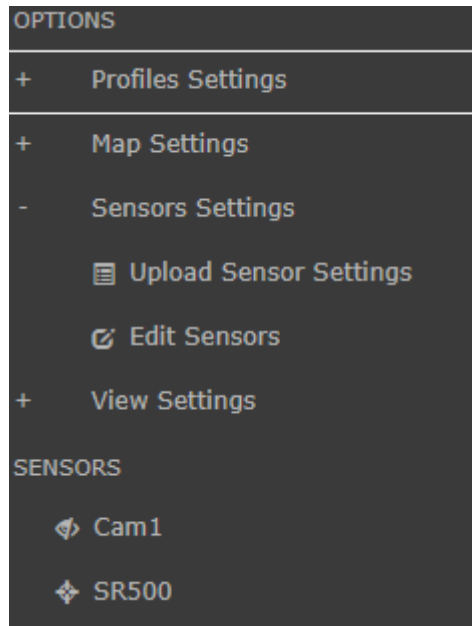

Figure 24: Selecting the sensor's name from the menu
- Selecting the sensor name from the menu itself (Figure 24: Selecting the sensor's name from the menu)